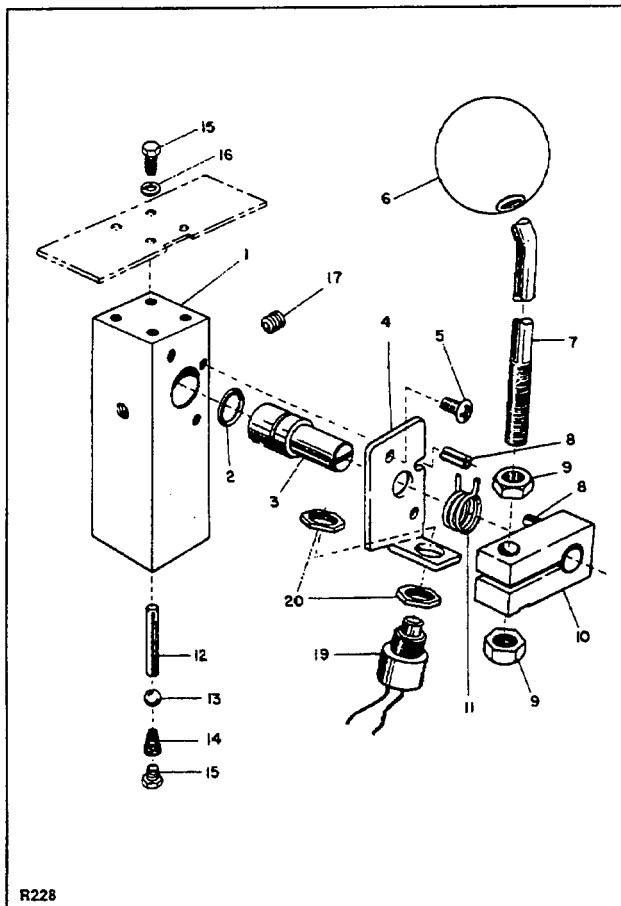

Figure 9-11. Lift Control Valve Assembly
Repair parts for the control valve are illustrated in Figure 9-11.
6. Label, disconnect and plug the hydraulic lines from the control valve. Label and disconnect the electrical wires from the switches (19, Figure 9-11) at the bottom of the control valve.
7. Remove the control valve by removing the four screws (15) and washers (16).
8. Install new or repaired control valve and secure with the four screws (15) and washers (16).
1. Loosen the lower nut (9, Figure 9-11) to release lift control lever (7) and valve clamp (10), from release cam shaft (3).
2. Remove lever and clamp from the release cam (3) and remove the handle return spring (11).
3. If it is necessary to remove the motor contact switch assembly (19), remove the nut (20).
4. Remove switch bracket (4)
5. Remove nipple (15) to free compression spring (14), check ball (13), and valve pin (12).
6. The release cam (3) and O-ring (2) can now be pulled from the valve body (1).
2. Loosen the upper nut (9, Figure 9-11) on the lift control lever (7) being careful that the clamp (10) does not come off the cam (3) and that the handle return spring (11) remains secure at the roll pins (8) to keep the lever centered and in a neutral position.
3. Note the point where the handle knob (6) and lever (7) come together as a reference point for the next few steps.
4. Using the reference point noted in step 3, push the handle forward 3/4 inch from neutral position. With a screwdriver in slot of release cam (3), rotate 1/8 inch clockwise. This is to make sure that check ball (13) is seated in the valve seat.
5. With a screwdriver, turn the release cam (3) counterclockwise until a definite resistance is felt. (Resistance is felt as the pin resting on the ball pushes against the hydraulic pressure in the system). At this point, the release cam action has moved the valve pin (12) down against the check ball (13). Rotation of the release cam beyond this point pushes the ball away from the valve seat and opens the system allowing the lift carriage to descend.
6. When resistance is felt and, with the handle pushed forward 3/4 inch, tighten upper nut (9) down against the valve clamp (10). The valve should now be in proper adjustment. Test by pushing the handle forward 1 inch and the lift carriage should start to descend slowly.
When the release cam (3, Figure 9-11) is properly set, it may be necessary to readjust the hydraulic pump motor switch (19). A clearance of approximately 0.010 inch should be maintained between the switch plunger and the valve clamp (10) for precise control of the lift carriage.
1. To adjust the switch for proper clearance, loosen the two nuts (20) supplied with the switch (19).